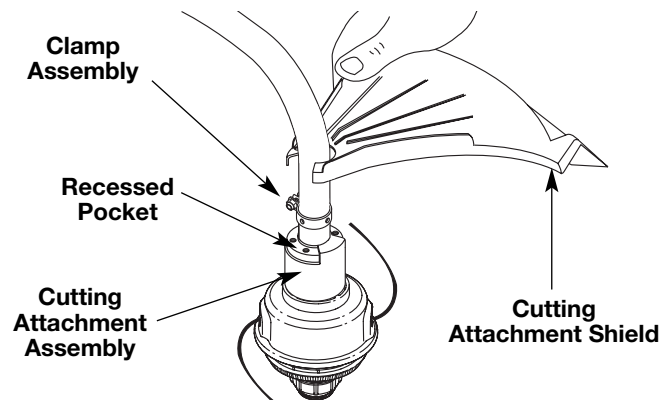

Fig. 4
1. Place the cutting attachment shield onto the shaft housing above the clamp assembly (Fig. 4).
2. Push the cutting attachment shield down to the top of the cutting attachment assembly and then rotate the cutting attachment shield until the screw holes align and the guard fits into the recessed pocket (Fig. 4).